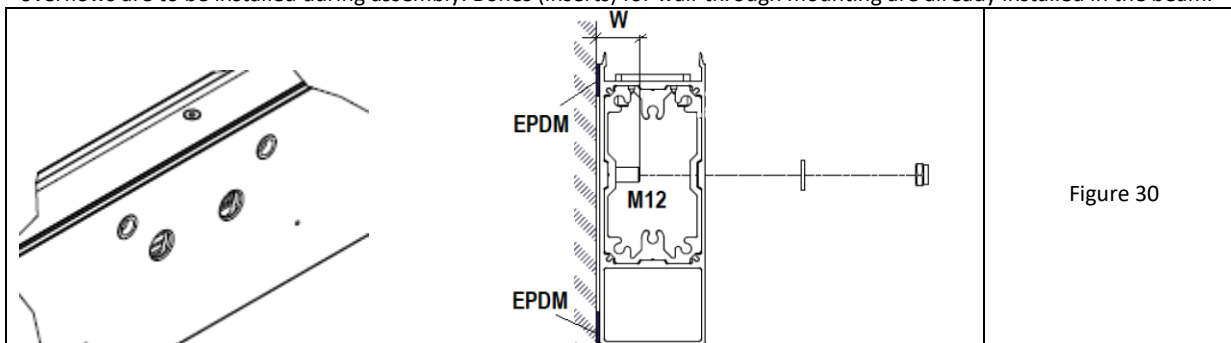

Figure 30
2. Embed M12 size anchors (not supplied by SELT) in the ground, ensuring that they are leveled together and that the axial spacing is consistent with the arrangement of holes in the beam. Maintain the correct distance of the anchor protrusion from the face of the wall in the range of $W = \text{min. } 35 \text{ and max. } 45 \text{ mm}$ (fig. 30).
3. On the back wall of the beam (from the wall side), after degreasing, stick EPDM self-adhesive spacer tapes at its upper and lower edge (fig. 30).